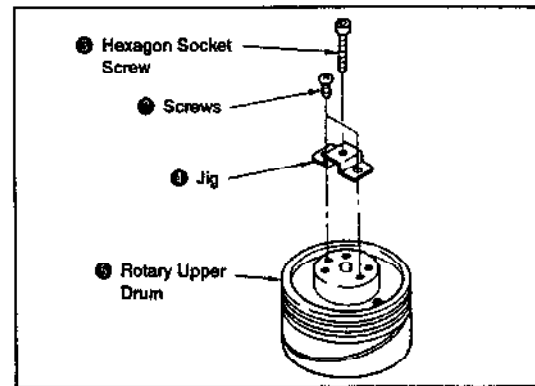

Fig. 3-23.
- 3) Mount the jig ③ (Ref. No. J-7) with the two supplied screws ④, then screw the attached hexagon socket screws ⑤ to the jig ③. The rotary upper drum ⑥ will move upward and come off (See Fig. 3-23).